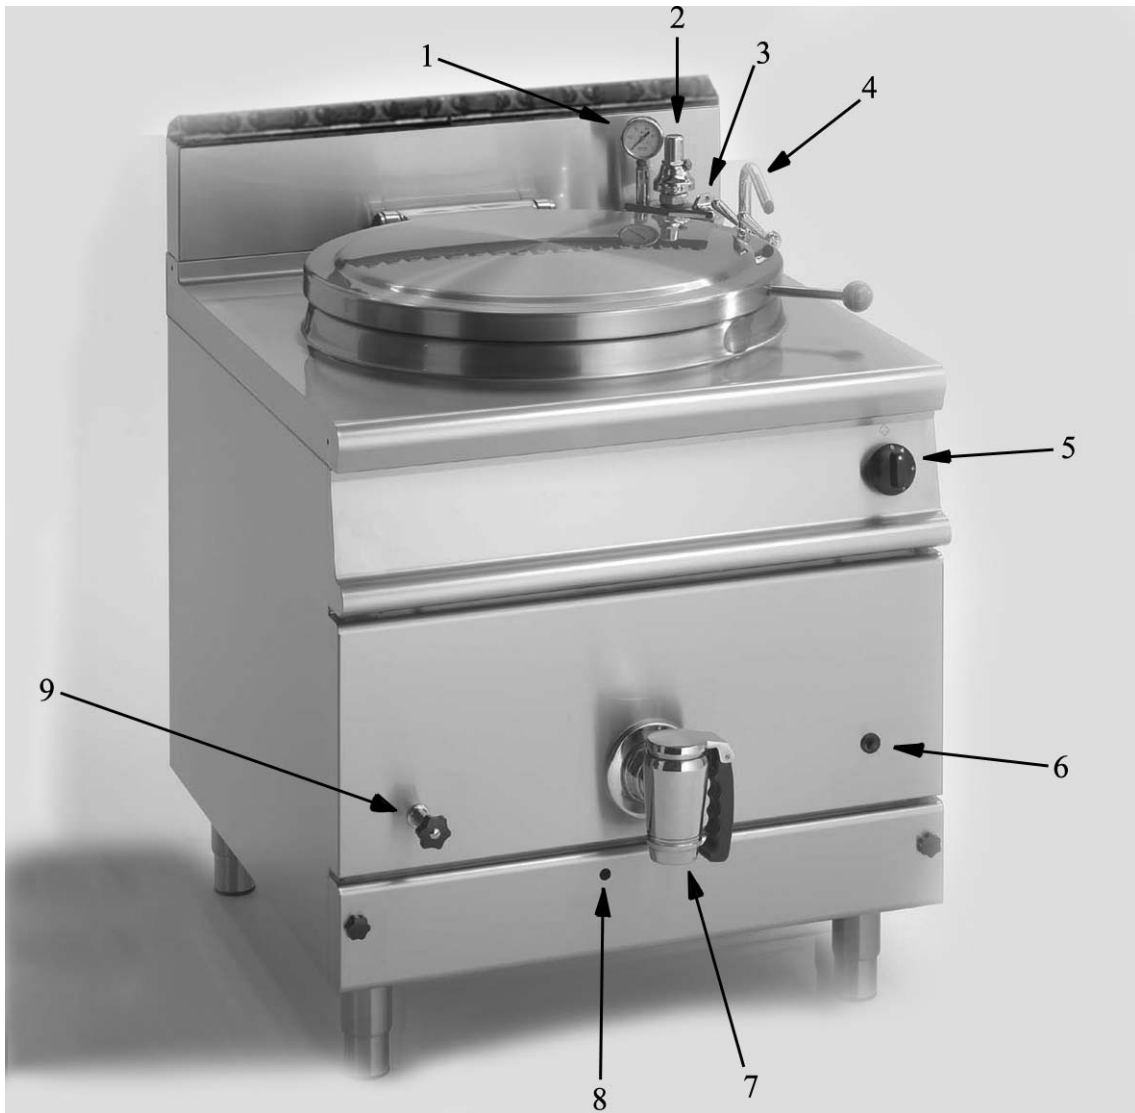
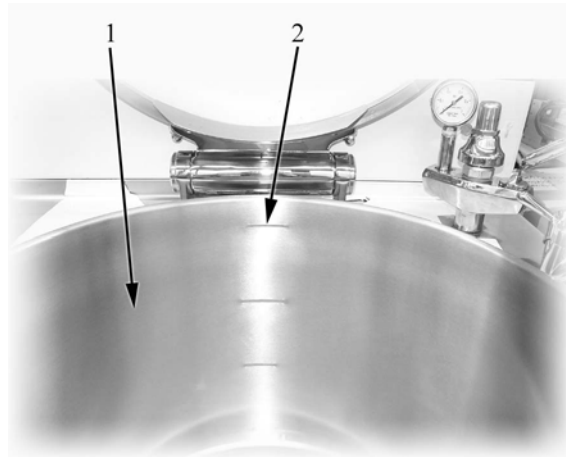
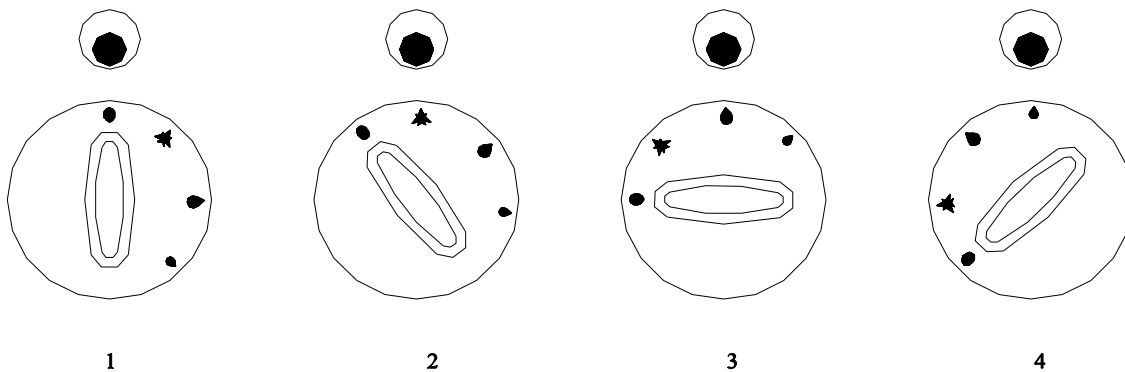

Fig. 1
Fig. 2a
Fig. 3
First of all, check the drain valve is closed, item 7 in Fig. 1.
Fill the tank with water using the knobs of the mixer tap unit item 4 in Fig. 1 up to maximum level around 4 cm from the top edge of the container item 2 in Fig. 2a, turning the spout towards the tank.
Fill the interspace with water with a hardness below 12/14 F°. The interspace is filled by removing the threaded plug (pos. 3 in Fig. 1), aiming the spout through the plug hole and opening the valve pos.4 in Fig. 1 .
- Open the minimum level valve pos.9 in Fig.1;
- remove the threaded plug pos. 3 in Fig.1 which closes the interspace hopper;
- pour the decalcified water through the hopper until a continuous flow of water pos.9 in Fig.1 comes out from the valve. This proves that the water in the interspace has reached the maximum level;
- open the maximum level valve pos. 31 in Fig. 3 and check no water flows out, otherwise wait until all the excess water has flowed out;
- Close the threaded plug pos.3 in Fig.1.
To do this, open the minimum control valve(pos.9 in Fig.1) from which water should always flow out, otherwise immediately fill up with water to the maximum level as described above.
Push the knob pos.5 in Fig.1 and turn it towards the left to the position shown pos.2 in Fig.3 . Press and hold down the knob and at the same time push the ignition button pos.6 in Fig.1. After lighting the pilot flame, hold the knob down for 15-20 seconds to allow the thermocouple to heat. If the pilot flame goes out, repeat the lighting process.
Proper pilot flame ignition can be checked through the inspection hole provided for that purpose (pos.8 in Fig.1).
To light the main burner, exercise a slight pressure and turn the knob to the position corresponding to the desired temperature (pos. 3-4 in Fig. 3).
- Select the temperature level for cooking by turning the regulation knob (pos.5 Fig.1);
To turn off the main burner, turn the knob towards the right to the position shown pos.2 in Fig.3: only the pilot flame will remain lit. Exercise a slight pressure and turn the knob to the position shown pos.1 to extinguish the pilot flame too.